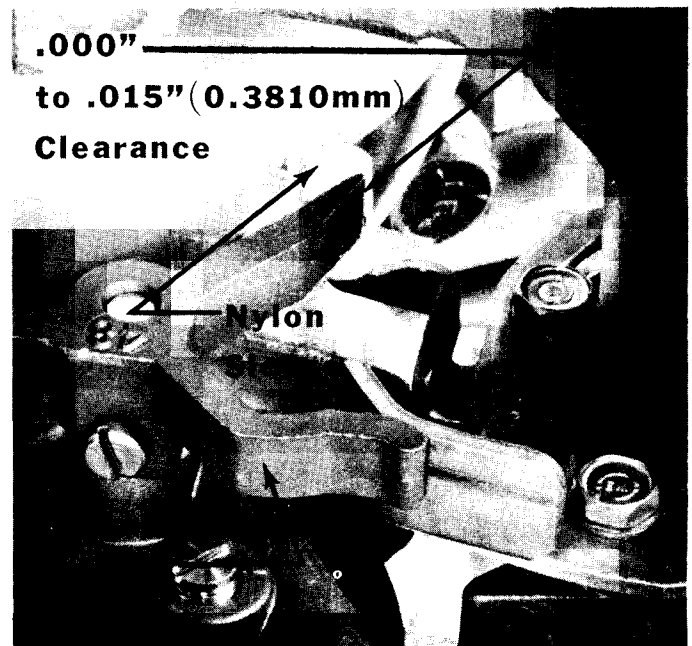

Figure 5. Second Throttle Pickup Tab Adjustment
16. Bend second throttle pickup pin (with nylon sleeve) against carburetor cluster (.000"-to-.015" [0.3810mm] gap). (Figure 5)